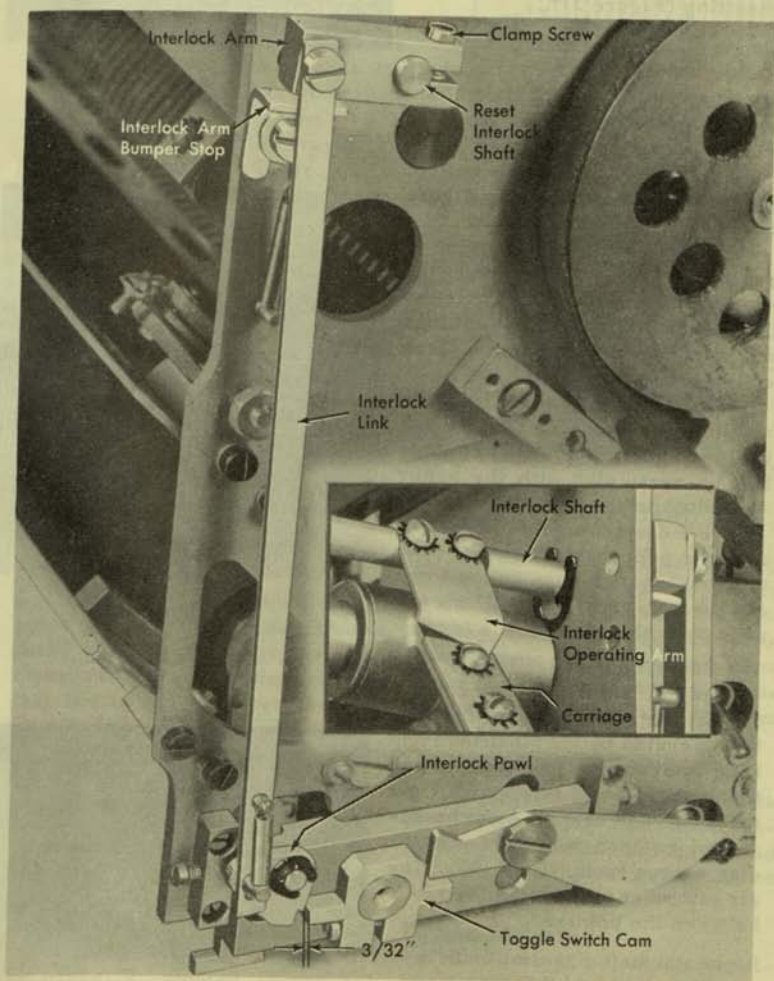

Figure 29
3. Position the interlock link operating arm on the operating shaft so that with the carriage either to the extreme right or left side operating the interlock pawl, the interlock pawl clears the toggle switch cam by $3/32$ " (Figure 29). The arm is positioned by loosening the clamp screw through the split end of the arm and by tightening it when it is in the proper position.